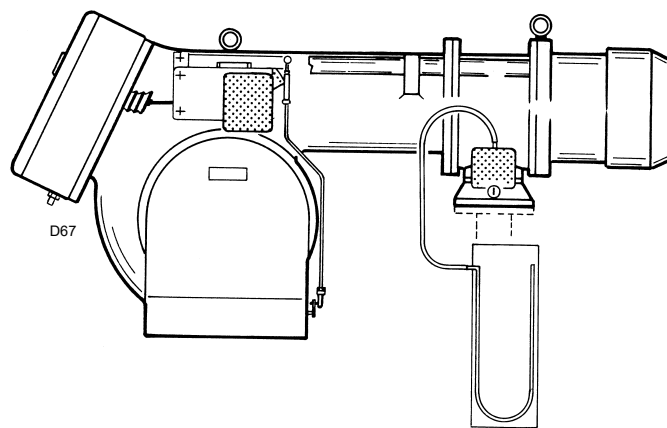

Fig. 24
- Fit a U-type pressure gauge (Fig. 24) to the gas pressure test point on the pipe coupling.
The arrival of gas to the sleeve is indicated by the U-type pressure gauge (Fig. 24).